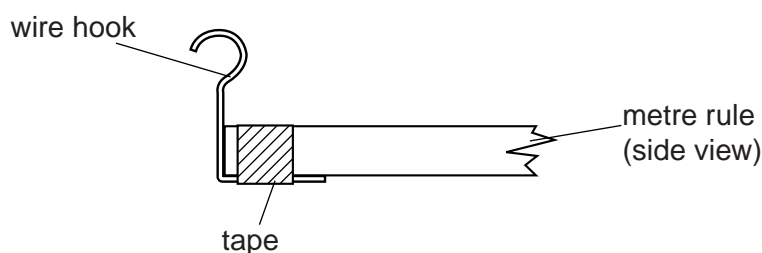

Fig. 1.1
2. The hook could be formed from a piece of wire taped to the rule, as shown in Fig. 1.1. It should be capable of attaching the rule to the spring when the rule is at a small angle to the horizontal with its 0 cm end resting on the bench.